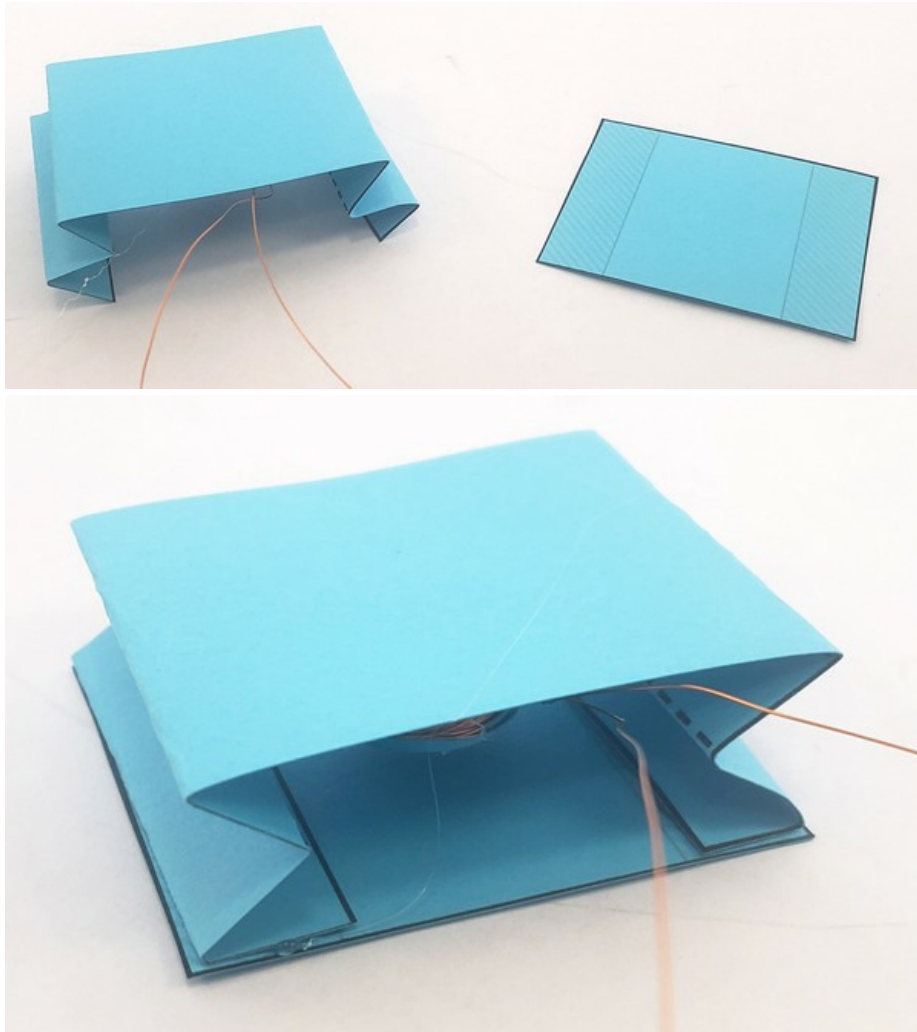

Figure 13. Top: accordion piece next to smaller rectangle base piece. Bottom: accordion piece glued to base piece.
12) Flip the accordion piece upside down. Using the small rectangle from the template as a base, glue the two accordion legs to the shaded areas of the rectangle (Figure 13). This completed piece will be the main body of the speaker.